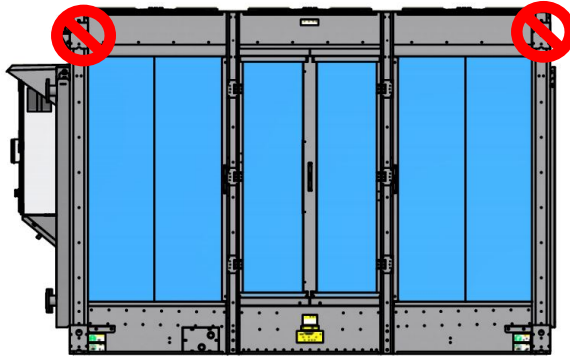

Figure 2. Incorrect Lifting Locations
- **⚠ WARNING**: Attachment point shown in **Figure 2 IS FOR FACTORY USE ONLY**. A heavy load can fall and cause severe injury, possible death, and property damage. Only use the lift points designated in Rigging & Assembly Instructions.
- Do not lift equipment from upper attachment points shown in **Figure 2. THESE LIFT POINTS ARE FOR FACTORY USE ONLY.** Only use the lift points shown in the rigging drawings listed in **Table 1.**